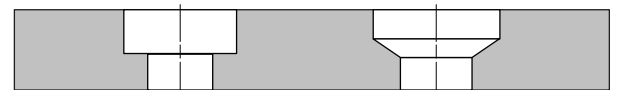

Figure 7
4.4.5.2 Refer to Figure 7 and carefully examine the counterbored holes in the friction disc segments (513084). One set of counterbored holes is tapered and designed to accept the rivet head, while the other set of counterbored holes is flat-bottomed and designed to accept the clinched end of the rivet.
4.4.5.4 Insert the first rivet (000130x0090) through any hole adjacent to the split line (end of lining segment). Be sure to note the type of counterbored hole to determine the position of the rivet head. See Figure 7.